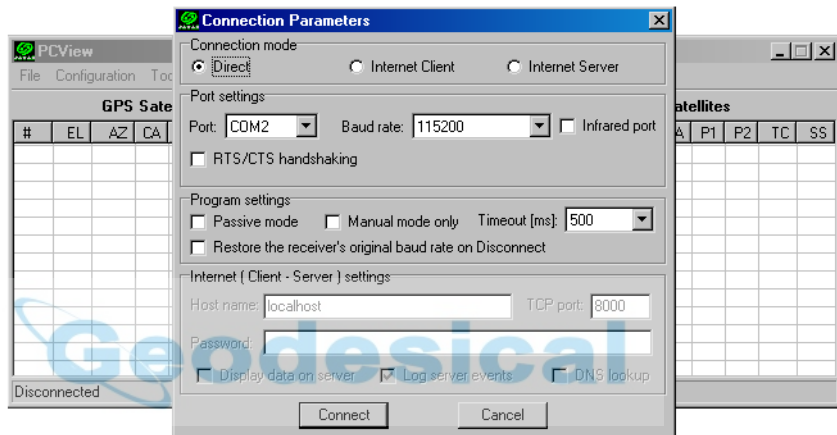

Figure 2-9. PCView Main Window
1. Once the receiver and a computer are connected, start PCView on your computer. The PCView main screen displays (Figure 2-9).
- For Bluetooth® or RS232 connections (Figure 2-9 on page 2-11)